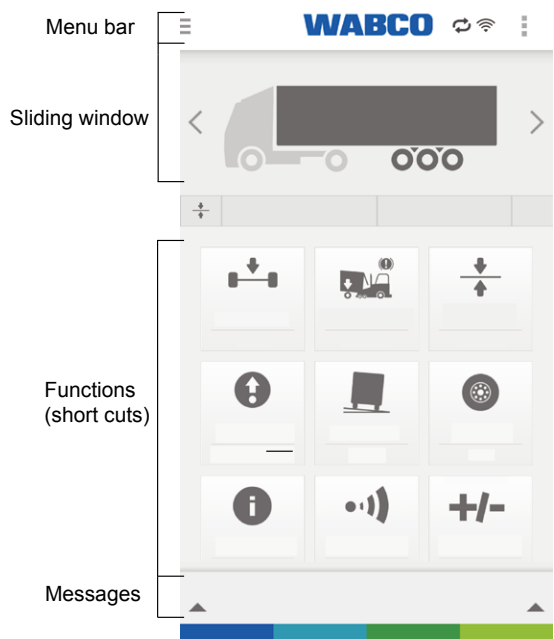

Fig. 4 Example: Instrument panel (language-neutral)
- Do not put the mobile terminal with the OptiLink™ app active into one's pocket as this could inadvertently trigger vehicle functions. When not in use, close down the OptiLink™ app or at least return to the instrument panel (▶ Fig. 4, page 12) of the OptiLink™ app.
- The return button gets you back to the instrument panel where the functions in their previously arranged order can be seen. (▶ Fig. 4, page 12).